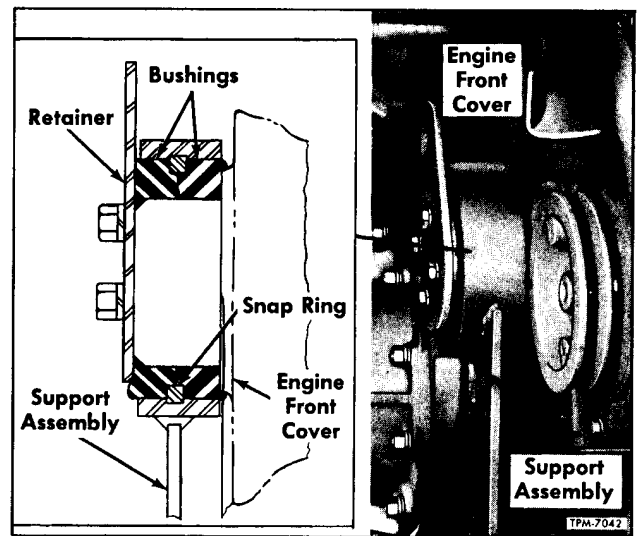

Figure 13—Engine Front Mounting
1. Inspect engine front mounting bushings (fig. 13). If bushings are deteriorated or damaged, replace bushings.